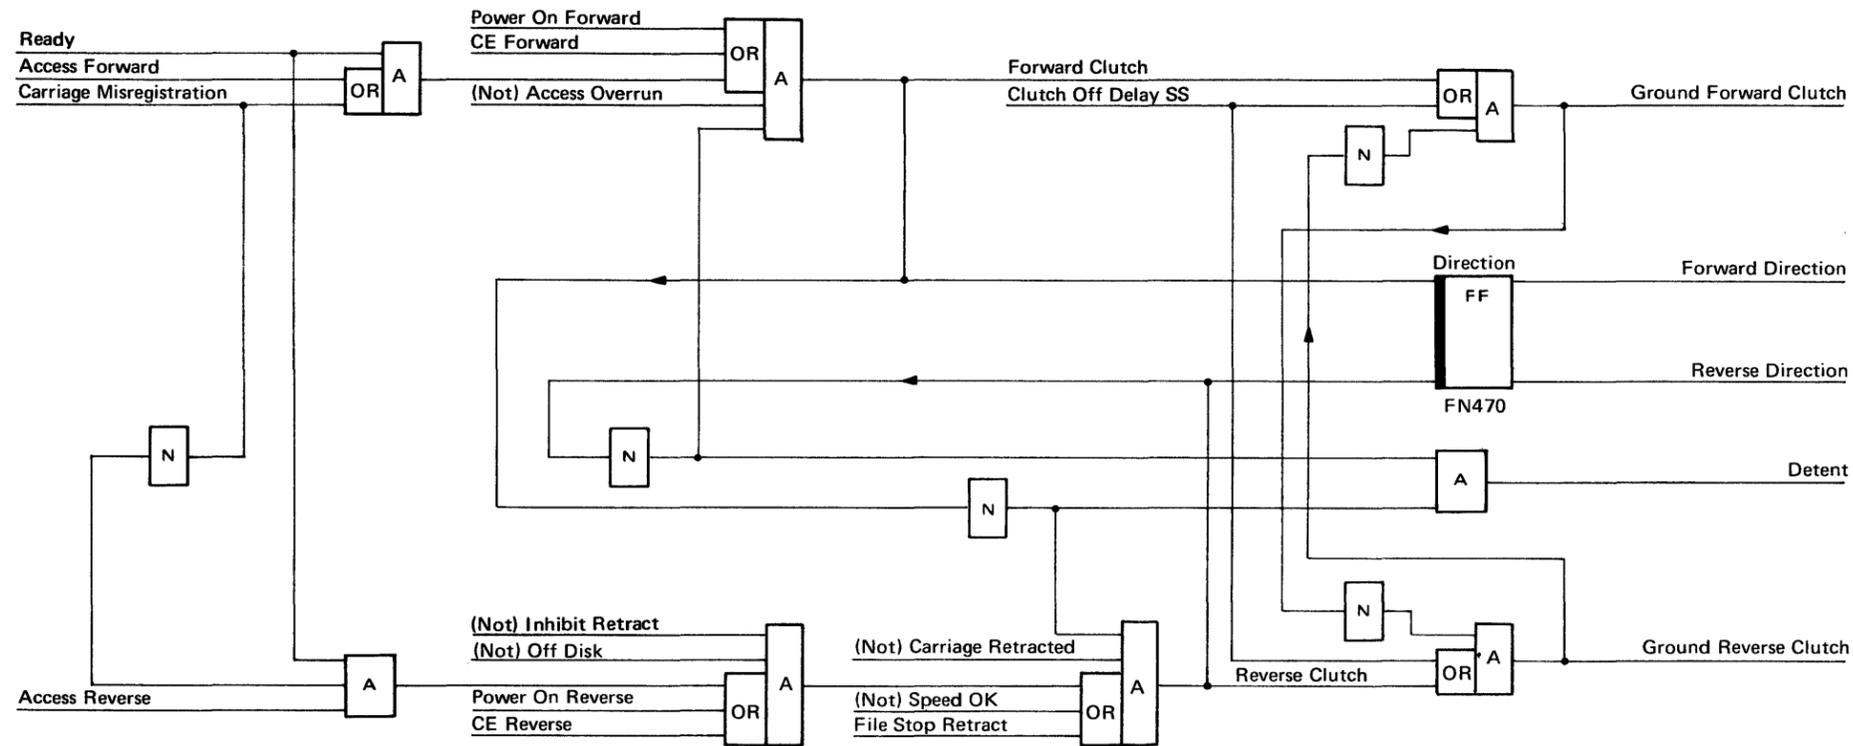
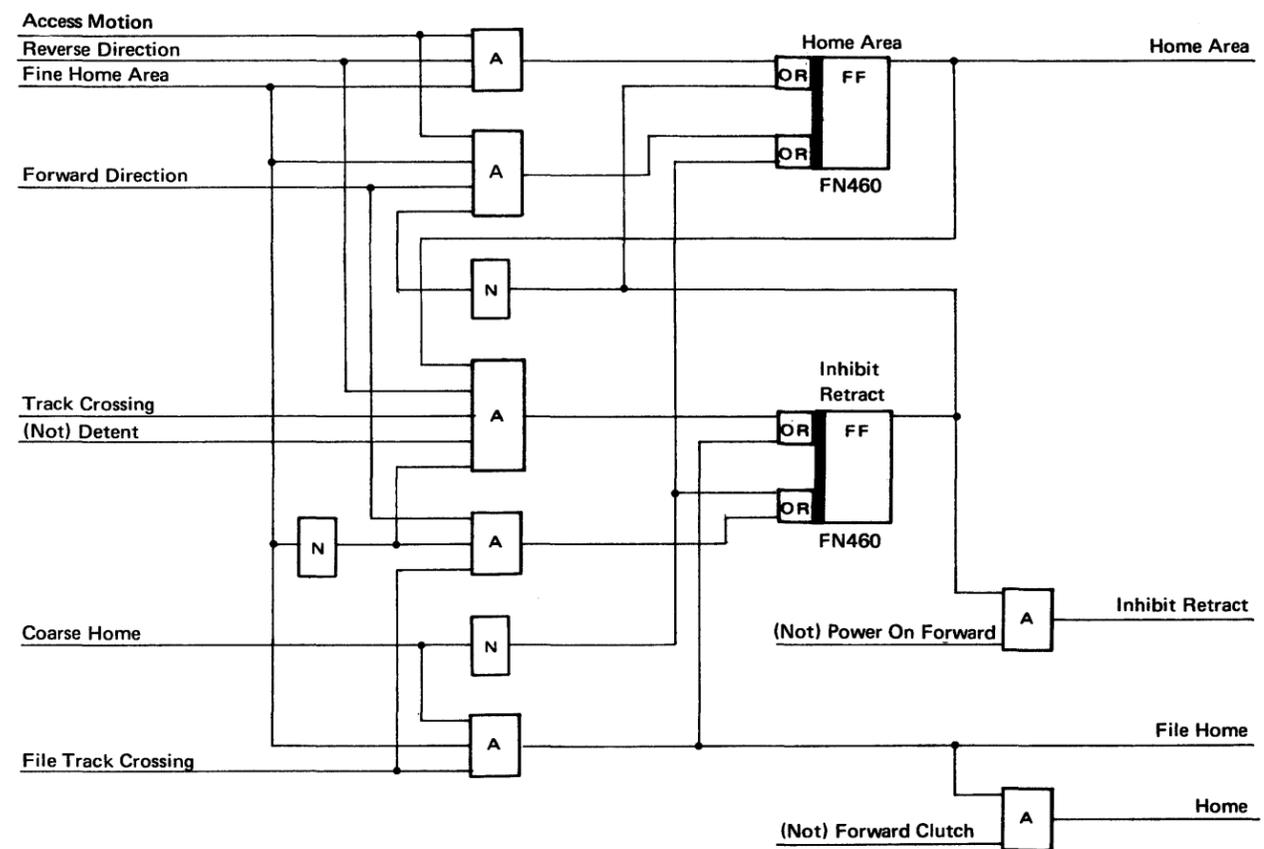

Figure 1-44. Clutch and Detent Signals [07505]
Figure 1-47. Home Detection Logic [07508]
- Derivation of clutch and control signals are shown in Figures 1-44 and 1-45.
*From Tracks 002 to 202:* When 'access reverse' is activated, the carriage retracts towards track 000. At approximately track 001.5, the fine home area warning pulse occurs, setting the 'home area' latch (Figure 1-47). With the 'home area' latch set, the 'inhibit retract' latch is set by the track crossing pulse at the next track crossing point (track 001). With 'inhibit retract' activated, 'ground reverse clutch' is dropped, and 'detent' activated (see Figure 1-44). ('Detent' must be activated one track before track 000.) The carriage stops with the heads at track 000 and 'access reverse' is dropped.
When the forward/reverse switch is set to FORWARD, a singleshot fires, setting the 'CE forward' latch. 'CE forward' is activated, bringing up 'ground forward clutch', and dropping 'detent' (see Figure 1-44).
- See Figure 1-47 for home detection logic.